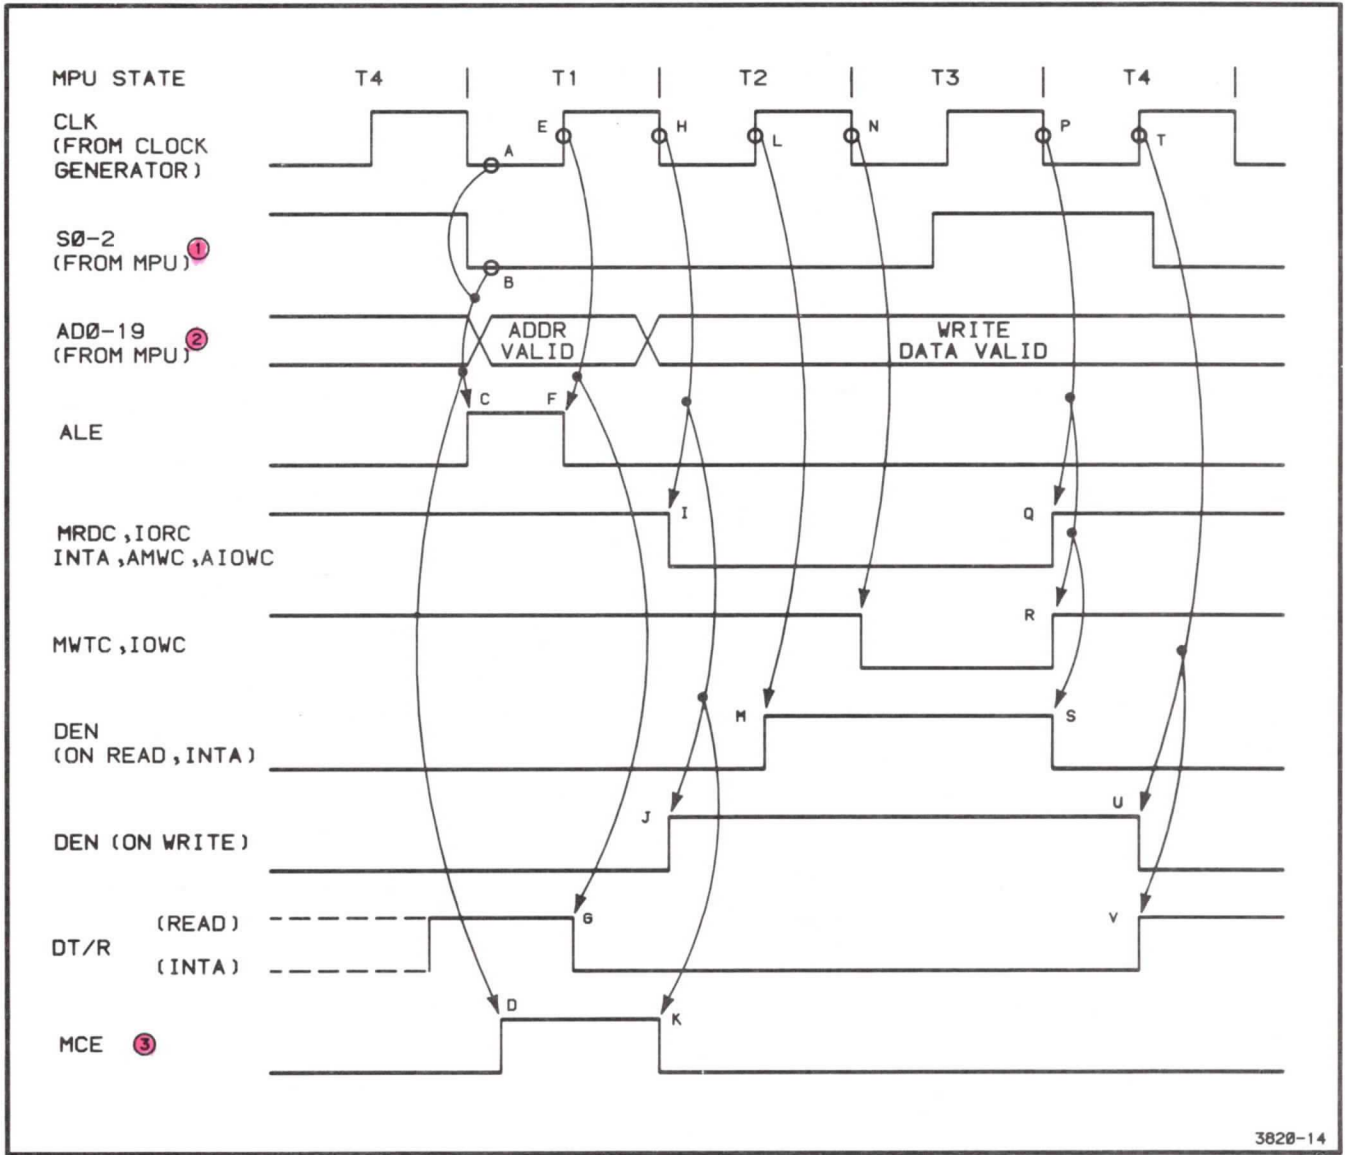

Figure 5-8. Bus Controller Timing.
When BUSAEN is low (MPU is bus master) and CBADR is high (MPU is not accessing a device on the Processor board), the Control Signal Generator activates its control outputs according to whether S0-2 indicate a read, write, or interrupt cycle. See Figure 5-8 for the sequencing of these signals.
**NOTES:** These notes 1-3 and A-V appear in Figure 5-8.